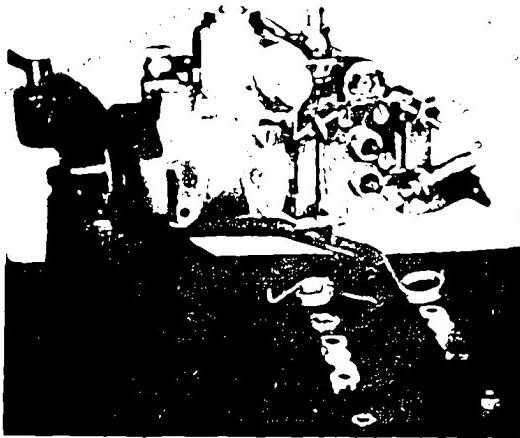

Fig. 1
1.4 Position the quiet-idle device lever exactly vertically, pointing upwards towards the return fitting (see fig. 1). The quiet-idle device has thus been put out of action.